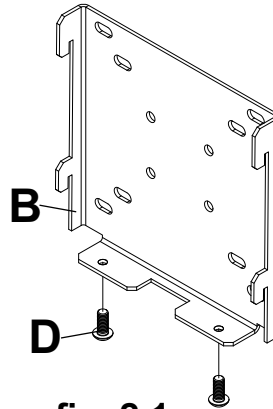

fig. 2.1
- 2** Thread M5 phillips screws (**D**) to hook bracket (**B**) making the screws flush with bracket as shown in figures 2.1 and 2.2.